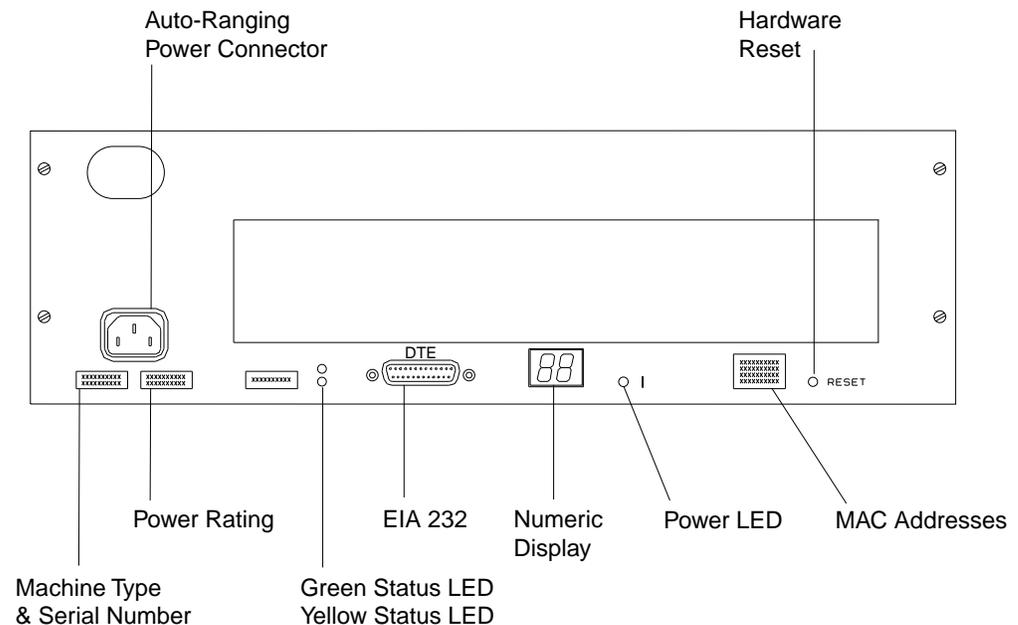

Figure 3-9. The 8229 Front Panel
4. Locate the MAC address label on the front of the 8229 (to the left of the reset button). Refer to Figure 3-9 on page 3-11.
6. Locate the 2-digit numeric display in the center of the lower portion on the front of the 8229. Refer to Figure 3-9 on page 3-11.
10. Locate the MAC addresses on the label on the front of the 8229 (to the left of the reset button). See Figure 3-9 on page 3-11 for a view of the 8229 front panel.